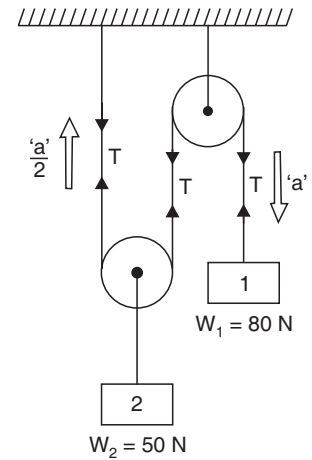

Fig. 8.10
**Example 8.19.** A system of frictionless pulleys carries two weights hung by inextensible cords as shown in Fig. 8.10. Find :